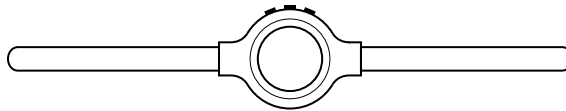

Fig. 2
- 4 Fig. 2 shows a metalworking tool.